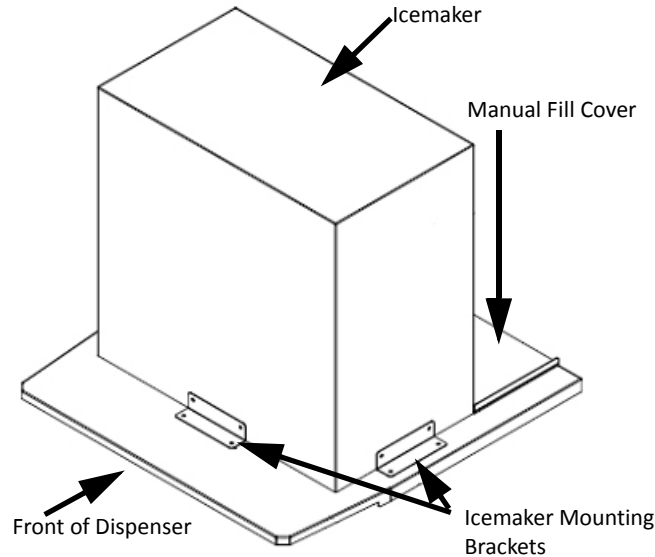

Figure 5.
10. Install the icemaker mounting brackets as shown in (Figure 5). Using the brackets as a template, drill 136 diameter (#29 drill size) holes into the icemaker cabinet and the adaptor lid. Use care not to drill into any icemaker components (condenser, tubing, etc.). Secure the brackets using the #10 sheetmetal screws provided.